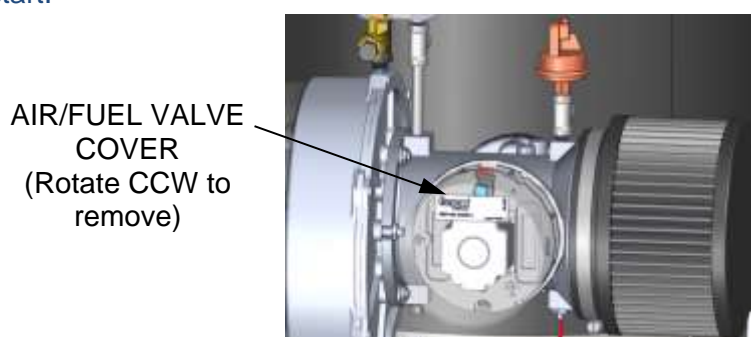

Figure 5.11-1: Typical Air/Fuel Valve Cover Location
3. Remove the Air/Fuel Valve cover by rotating the cover counterclockwise to unlock it (see Figure 5.11-1).
- Remove the Air/Fuel Valve cover (see Figure 5.11-1) by rotating the cover counterclockwise to unlock and lift up to remove.